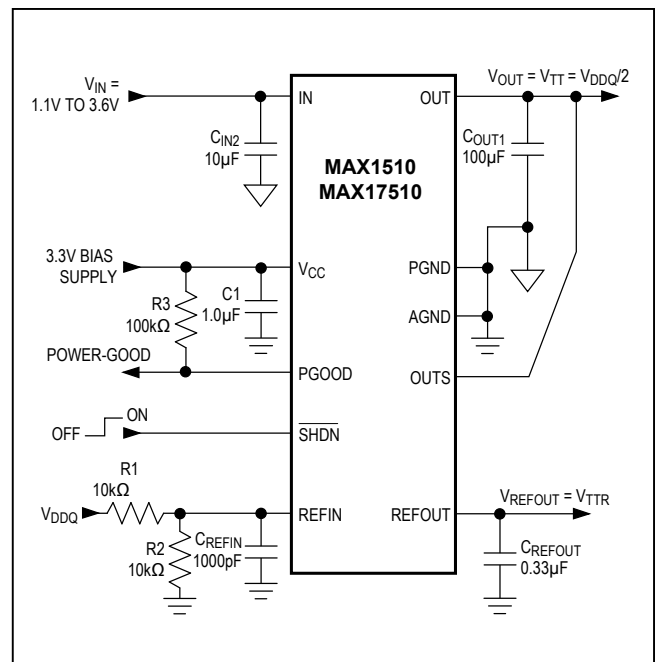

Figure 1. Standard Application Circuit
(V_{IN} = 1.8V, V_{CC} = 3.3V, V_{REFIN} = V_{OUTS} = 1.25V, $\overline{\text{SHDN}}$ = V_{CC}, circuit of Figure 1, T_J = T_A = -40°C to +85°C for MAX1510ETB, T_J = T_A = -40°C to +125°C for MAX17510ATB, unless otherwise noted. Typical values are at T_A = +25°C.) (Note 1)
($V_{IN} = 1.8V$, $V_{CC} = 3.3V$, $V_{REFIN} = V_{OUTS} = 1.25V$, $\overline{SHDN} = V_{CC}$, circuit of Figure 1, $T_J = T_A = -40^\circ C$ to $+85^\circ C$ for MAX1510ETB, $T_J = T_A = -40^\circ C$ to $+125^\circ C$ for MAX17510ATB, unless otherwise noted. Typical values are at $T_A = +25^\circ C$.) (Note 1)
(Circuit of Figure 1. $T_A = +25^\circ\text{C}$, unless otherwise noted.)
The MAX1510/MAX17510 are low-voltage, low-dropout DDR termination linear regulators with an external bias supply input and a buffered reference output (see Figures 1 and 2). V_{CC} is powered by a 2.7V to 3.6V supply that is commonly available in laptop and desktop computers. The 3.3V bias supply drives the gate of the internal pass transistor, while a lower voltage input at the drain of the transistor (IN) is regulated to provide V_{OUT}. By using separate bias and power inputs, the MAX1510/MAX17510 can drive an n-channel high-side MOSFET and use a lower input voltage to provide better efficiency.
The MAX1510/MAX17510 regulate OUTS to the voltage set at REFIN, making the devices ideal for memory applications where the termination supply must track the supply voltage. Typically, REFIN is set by an external resistive voltage-divider connected to the memory supply (V_{DDQ}) as shown in Figure 1. The maximum output voltage of 1.5V is limited by the gate-drive voltage of the internal n-channel power transistor.